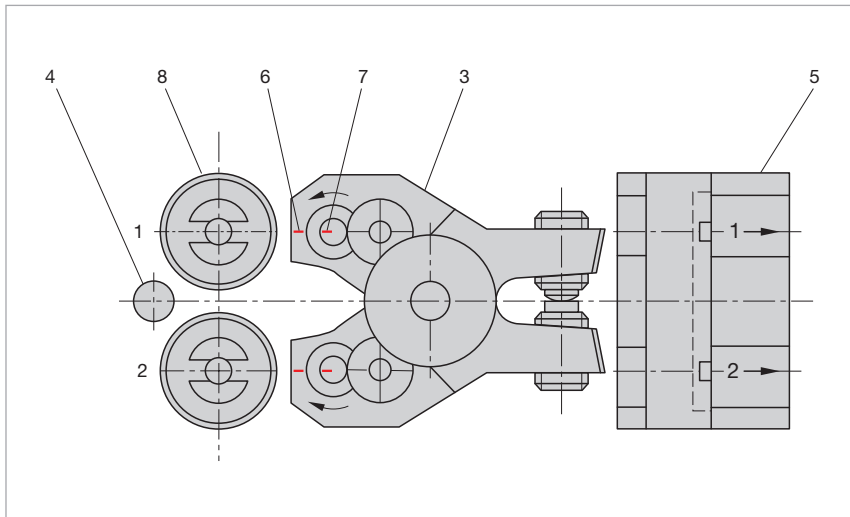

Figure 9: Mounting of rolls
The thread rolls have a defined position on the rolling head. The rolling head (3) is marked on the front end with number 1 on the upper side and number 2 on the lower side (see Figure 9). The thread rolls (8) are marked on the claw side with number 1 and 2. Roll number 1 has to be mounted in the hinge arm, which is also marked with number 1 on the front end. When mounting the roll, make sure that number 1 on the roll is facing towards the outer side of the head or the workpiece (4). Roll number 2 has to be mounted in the rolling head side marked with number "2". Number 2 on the roll must also be facing towards the outer side of the head or the workpiece (4). Both numbers 1 and 2 on the rolls must be facing towards the outer side of the head.
bore (8). Insert the bushings (ET-1)² into the thread rolls. Slide the roll marked with number "1" onto the hinge side on the pinion claw (ET-8) marked with number 1, making sure that number "1" on the roll is facing towards the workpiece (4), (see Figure 9). Also apply a coat of molybdenum sulfide grease to the axis (ET-3) and insert it from the gear unit side (5) into the thread roll hole. Slide the washer (ET-15) between the roll and the narrow rolling head arm side. Slide the axis up to the end stop. In the 0 position, the slot (7) on the axis – viewed from the gear unit arm side – must be aligned with the line (6) on the gear unit arm. Firmly clamp the axis with the cap screw (ET-25). Proceed in the same way to mount thread roll 2.
After thread roll number 1 has been mounted make sure that it is no longer rotated. Ensure that both numbers are facing towards the workpiece, see Figure 9.